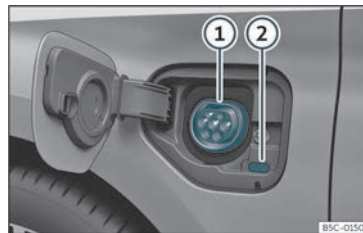

Fig. 202 Behind the battery charging cover on the front left-hand side: Charging socket
»» **Fig. 202**
- With the vehicle unlocked, the battery charging cover opens when it is pressed >>> **Fig. 202**.